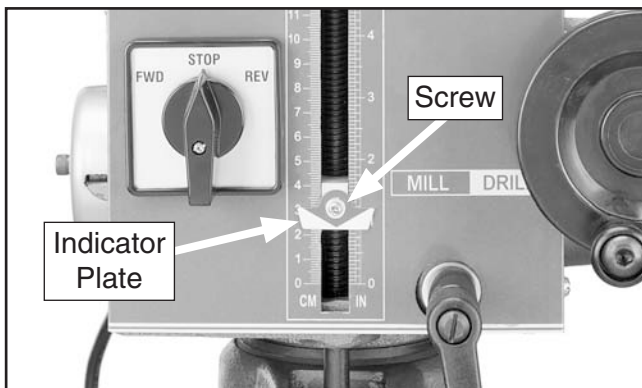

Figure 32. Depth stop indicator.
3. Loosen the screw on the indicator plate shown in **Figure 32** and adjust top of the plate so it is at 0"/0mm.